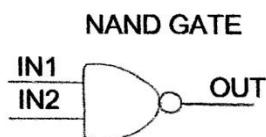

Figure 29. Nand gate symbol
19. This Nand Gate circuit is similar to the series circuit with two switches and a light bulb. A "1" on IN1 turns on T1, and a "1" on IN2 turns on T2. With both inputs, a "1" the output would be a "0". Any other combination gives you a "1". Figure 29 is the diagram symbol for it.